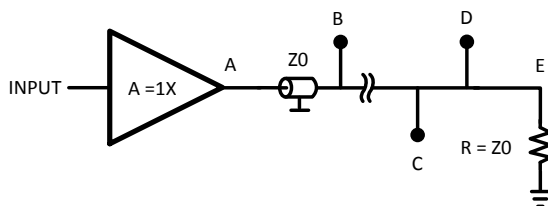

Figure 37.
- Use one buffer to drive to multiple points on one transmission line (see Figure 37)
Another transmission line possibility is to route the trace via several points along a transmission line (Figure 37). This is only possible if care is taken to observe certain restrictions. Failure to do so will result in impedance discontinuities that will cause distortion of the signal. In the configuration of Figure 37 there is a transmission line connected to the buffer output and the end of the line is terminated with  $Z_0$ . We have seen in the Connecting A Load Using A Transmission Line section that for the condition above, the signal throughout the entire transmission line has the same value, that the value is the nominal value initiated by the opamp output, and no reflections occur at the end point. Because of the lack of reflections no interferences will occur. Consequently the signal has every where on the line the same amplitude. This allows the possibility of feeding this signal to the input port of any device which has high ohmic impedance and low input capacitance. In doing so keep in mind that the transient arrives at different times at the connected points in the transmission line. The speed of light in vacuum, which is about  $3 \times 10^8$  m/sec, reduces through a transmission line or a cable down to a value of about  $2 \times 10^8$  m/sec. The distance the signal will travel in 1ns is calculated by solving the following formula: